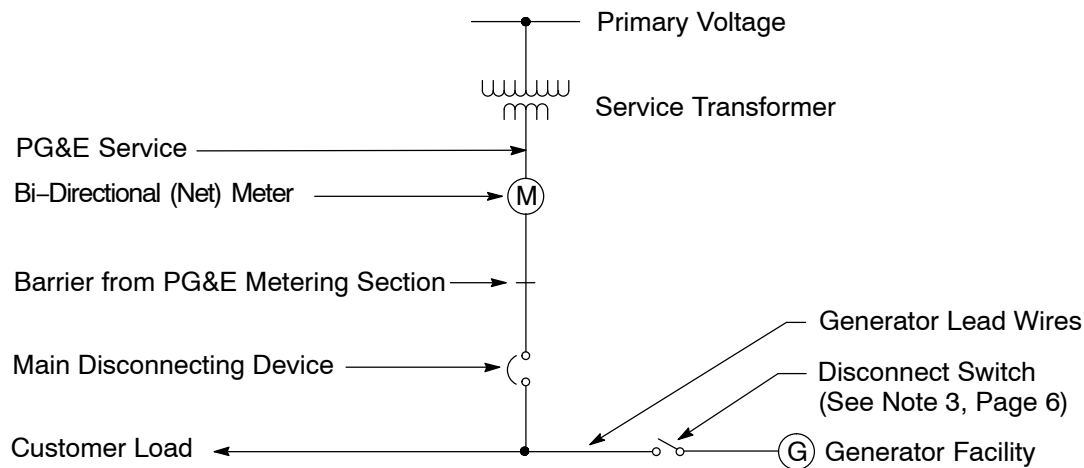
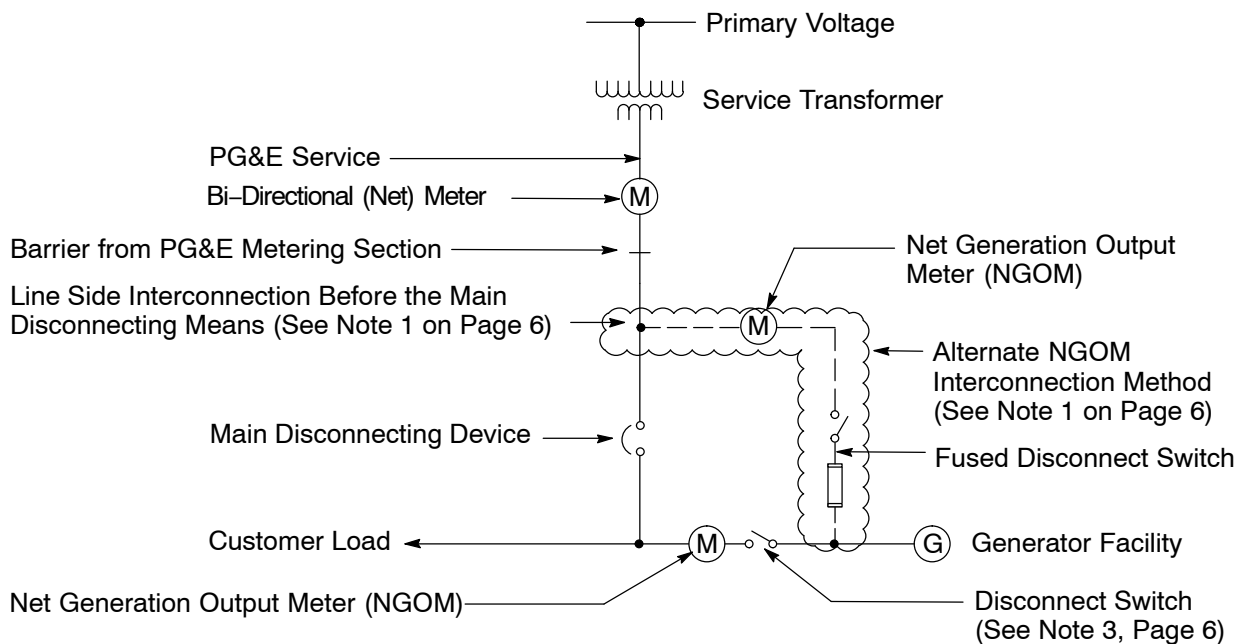

Figure 2
Figure 3
Notes for Figure 2 and Figure 3:
1. An interconnection placed before the main disconnecting device requires approval. Submit a variance request to the PG&E's Electric Generation Interconnection (EGI) Department. If a line (Supply) side interconnection is approved, install a fused disconnect switch before the NGOM, as shown in Figure 3. Note, customer cables and equipment are **not** allowed in any PG&E-sealed section.
3. Corrected Figure 3 on Page 6.